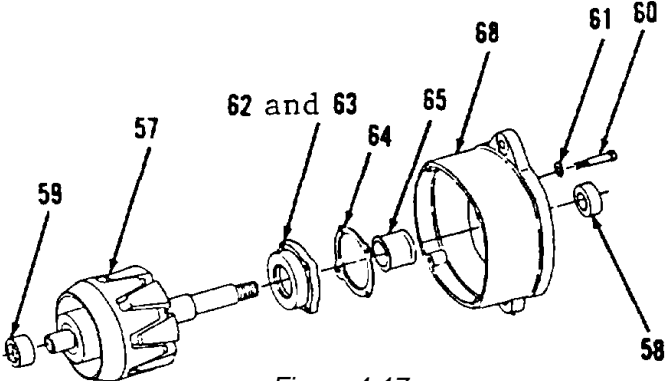

Figure 4-17.
- 19. Install race (59, Figure 4-17), if removed. Press on rotor (57) shaft until depth of 0.145 to 0.150 inch is made.
- 20. Install collar (65) through new seal (63) in retainer (62).
- 21. Using lubricant, lubricate retainer (62), collar (65) and new gasket (64). Fill reservoir between retainer (62) and collar (65) three-quarters full so at least a portion will contact bearing (66) after assembly. Position in frame (68).
- 22. Install four washers (61) and screws (60).
- 23. Using a suitable press, support collar (65) and press rotor (57) into retainer (62).
- 24. Install collar (58) on rotor (57).